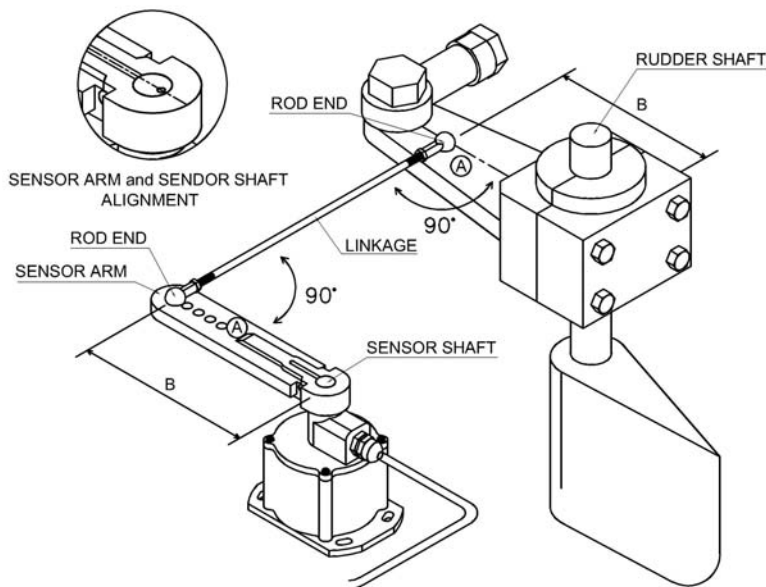

Figure 2 :
- 3) Mount the linkage supplied with the rudder angle sensor at 90 degree from tiller arm like Figure 2. Bolt the ball joint to the tiller arm.
- 4) The rudder angle sensor arm is same height "A" as the rudder tiller arm "A" like Figure 2.
- 5) "B" dimension should be same like Figure 2
If the locking screw in the rudder angle sensor arm has been loosened, or the arm removed from the rudder angle sensor, re-attached the arm and check the potentiometer centering. When the rudder is dead ahead, the electrical resistance between the black wires and the white, the black wires and the red wires should be equal. The potentiometer can also be centered mechanically by aligning the notch on the sensor shaft. See Figure 2. Be careful to check the installation for any mechanical obstructions or binding of the linkage, and correct it now, before it becomes a problem.